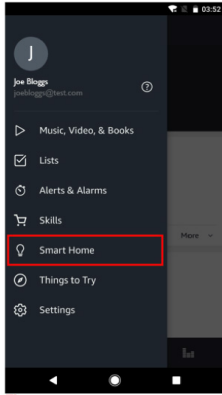
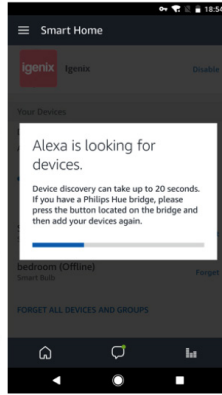
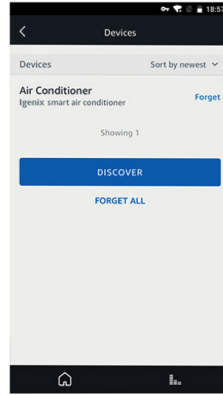

fig.20
fig.21
fig.22
- Alternatively, you can select in the “Menu” option “Smart Home” (fig.20) and then tap “DISCOVER” to discover the smart devices (fig.21). Discovered devices will be shown in the list (fig.22).